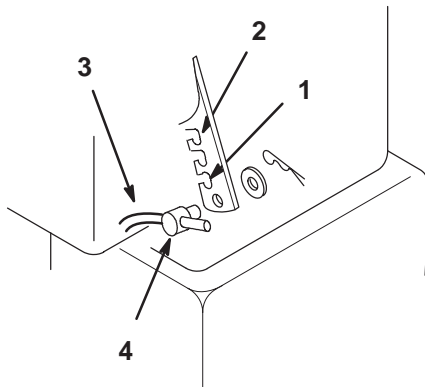

Figure 22
Changing the lift chain link location at the lift arm notch, affects maximum tilling depth, transport lift height and lift effort. The location can be changed at the lever (Fig. 22).
1. For maximum tilling depth and transport lift height locate link of lift chain in the lowest notch of lift lever (Fig. 22). This position will have the greatest lift effort.
2. For minimum tilling depth and reduced lift height, locate the link of lift chain in the upper clevis notch of lift lever (Fig. 22). This position will have lowest lift effort.
3. For variations of less than the three notches in the lift lever, disconnect the lift cable from the lift arm and rotate the trunnion (Fig. 22) Turning clockwise increases lift height and reduces tilling depth and counter clockwise reduces lift height and increases tilling depth.